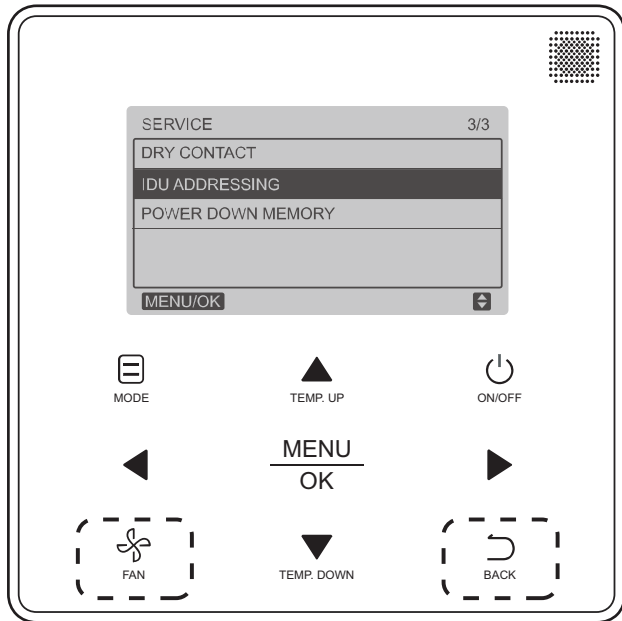

Fig. 29 —Programmable Controller IDU Addressing Menu
1. Press **FAN** and **BACK** simultaneously for five seconds to access parameter settings as shown in Fig. 29.